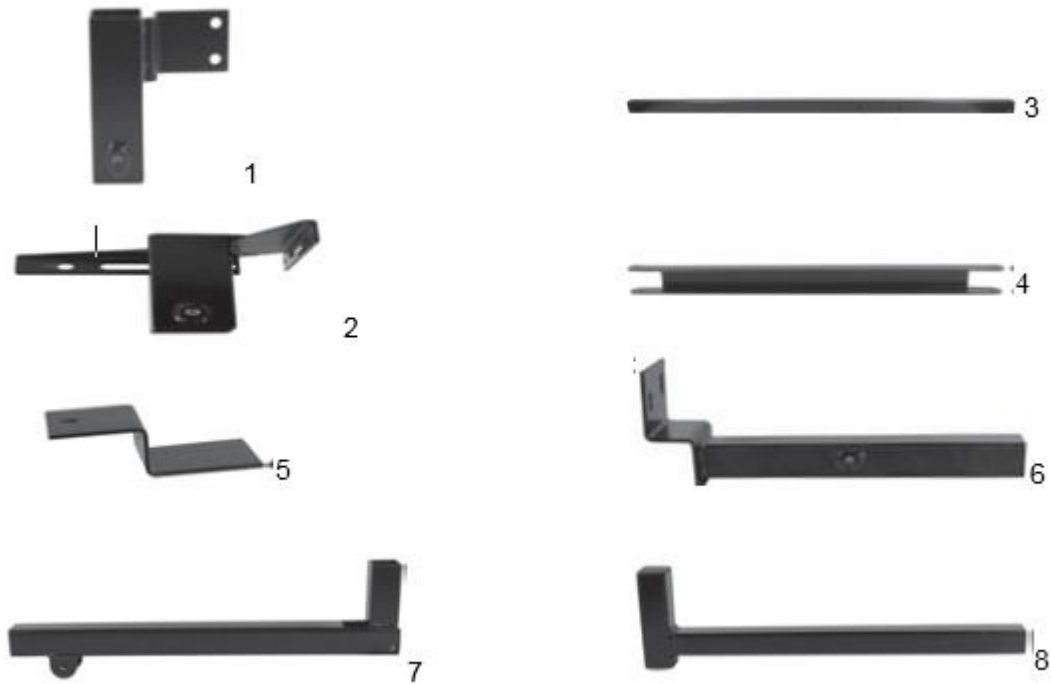

**Fig. 4**
**Step 4- Refer to Fig. 4**
1. Assemble the upper arm using 5/16" Button Head Bolts (G), 5/16" Flat Washers (K) and 5/16" Lock Nuts (J). Use a 5/16" Button Head Bolt (H) to attach the Ladder Stop (5) with the Spacer (M) in the gap of the Horizontal Cross Arm (7). Insert the Adjustable Arm (8) into the Horizontal Cross Arm (7) and adjust to the desired width. **Secure it using M8 x 65 Button Head Bolt (H).** Insert the Uprights (3) into the Upright Supports (6). Secure using set screws (c).